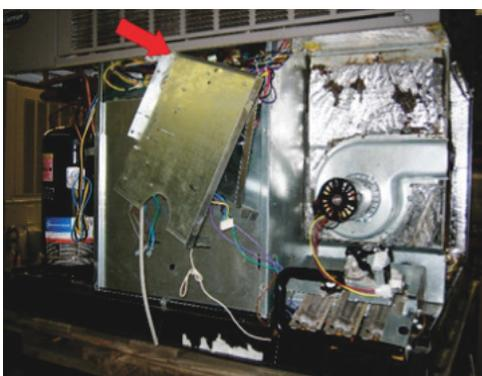

Fig. 35 – Securing Assembly to Screw Hole A210079
14. Gently pull Heat Shield / Control Panel bracket down and forward. Then rotate control panel bracket to the left. Secure assembly to screw hole on front panel with wire tie or similar fastener (Fig. 35). Use caution when moving control panel to avoid damage to controls or wire harness while moving assembly.